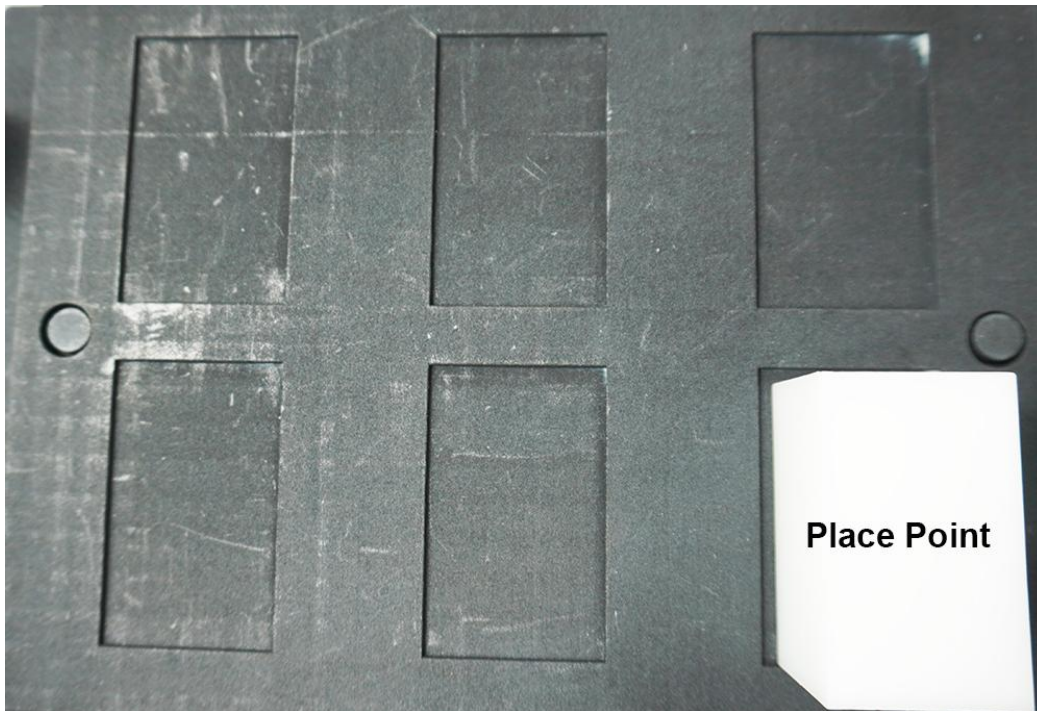

Figure 7.6 – Place Location
11. Move the robot to a position above one of the spots on the provided tray (as seen in Figure 7.6).